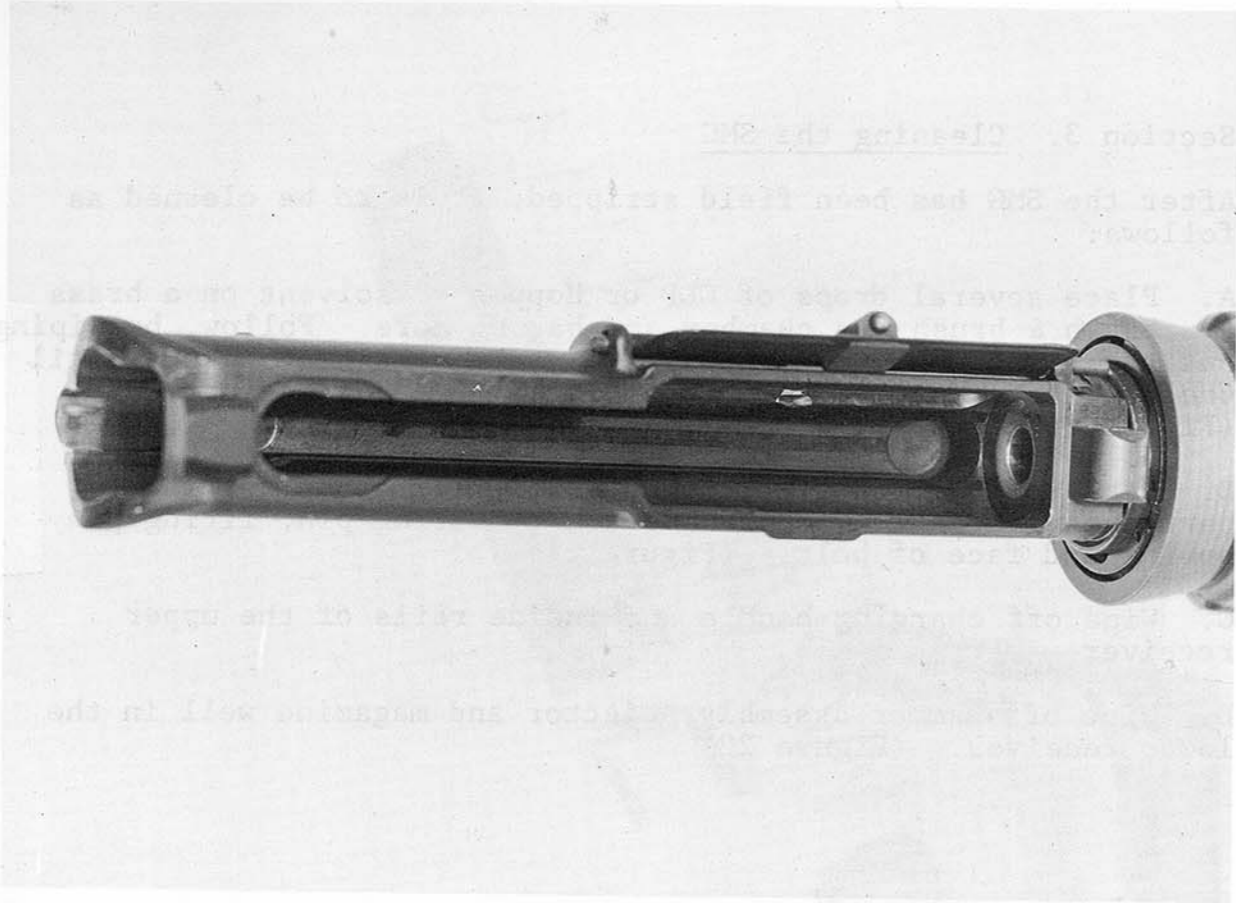

Figure 20. View of bottom of upper receiver showing chamber and inside rails
- A. Place several drops of CLP or Hoppes #9 solvent on a brass 9mm brush & brush the chamber and barrel bore. Follow, by wiping out the barrel bore and upper receiver with clean patches until the swab comes out of the barrel receiver clean and dry. (Figure 20)